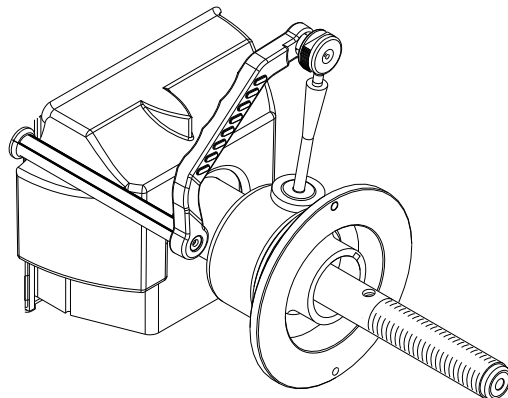

Figure 44 - Touch end of Calibration Weight resting on Bell Collar
10. Locate the Calibration Weight. Place the calibration weight with the large end oriented on the bell collar. Extend the SAPE arm outward and rotate the extension to just touch the end of the calibration weight as shown in Figure 44. A tone will sound and the display will change to "**H**" "**POS**". Return the SAPE arm to the home position.